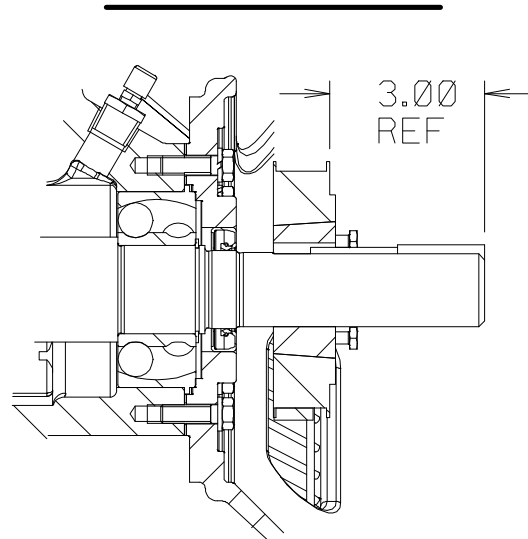

Figure 11. Drive Sprocket Positioning
drive key (23, Figure 5). Install the sprocket (24) and bushing (25) on the shaft to the dimension shown in Figure 11.
When properly installed to the dimension shown in Figure 11, the key (23, Figure 5) **will not** extend fully through the bushing. This is an acceptable fit for this application.